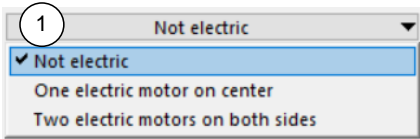

Figure 45. Three options for electric motors on differentials.
- ① Drop-down list for choosing among three types of definitions (Figure 45):